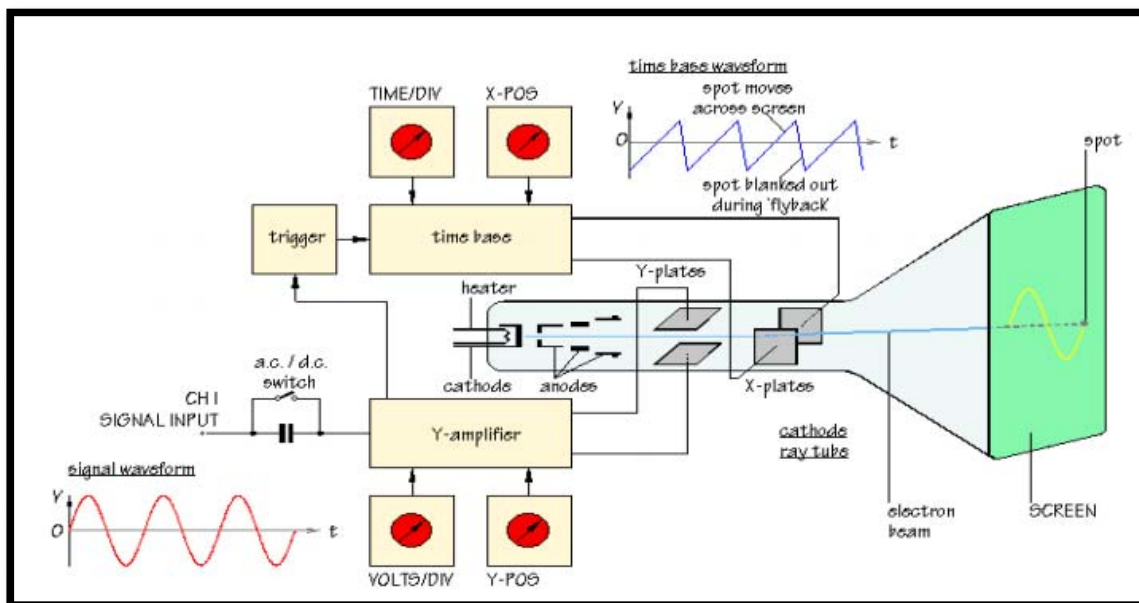

Fig.1: Cathode Rays Oscilloscope
**Theory:** The block diagram of an analog CRO is shown in the Fig.1, which explains the internal functioning of an oscilloscope.
In addition to the main columns of holes, however, you'll note four sets or groups of holes along the top and bottom. Each of these consists of five separate sets of five holes each, for a total of 25 holes. These groups of 25 holes are all connected on either side of the dotted line indicated on Fig.1(a) and needs an external connection if one wishes the entire row to be connected. This makes them ideal for distributing power to multiple ICs or other circuits.